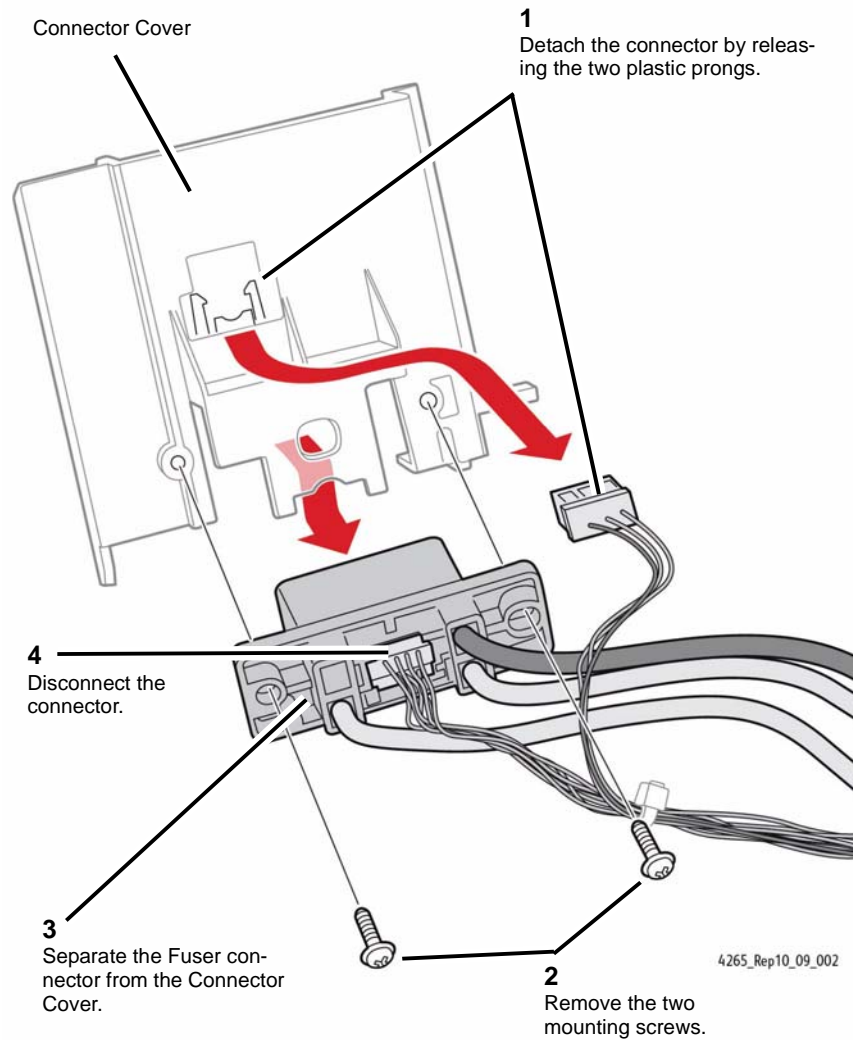

Figure 2 Disconnecting the Connectors
5. Disconnect the connectors from the rear of the Connector Cover (Figure 2).